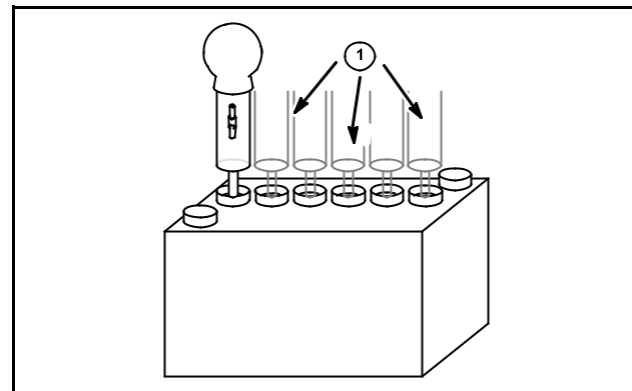

Fig. 7
3. With battery fully charged, check specific gravity readings of each cell (1) with a Battery Hydrometer and record readings, Fig. 7. All readings should be above 1.250 (compensating for temperature). If specific gravity readings varied .050 or if ALL cells read less than 1.225, replace battery.